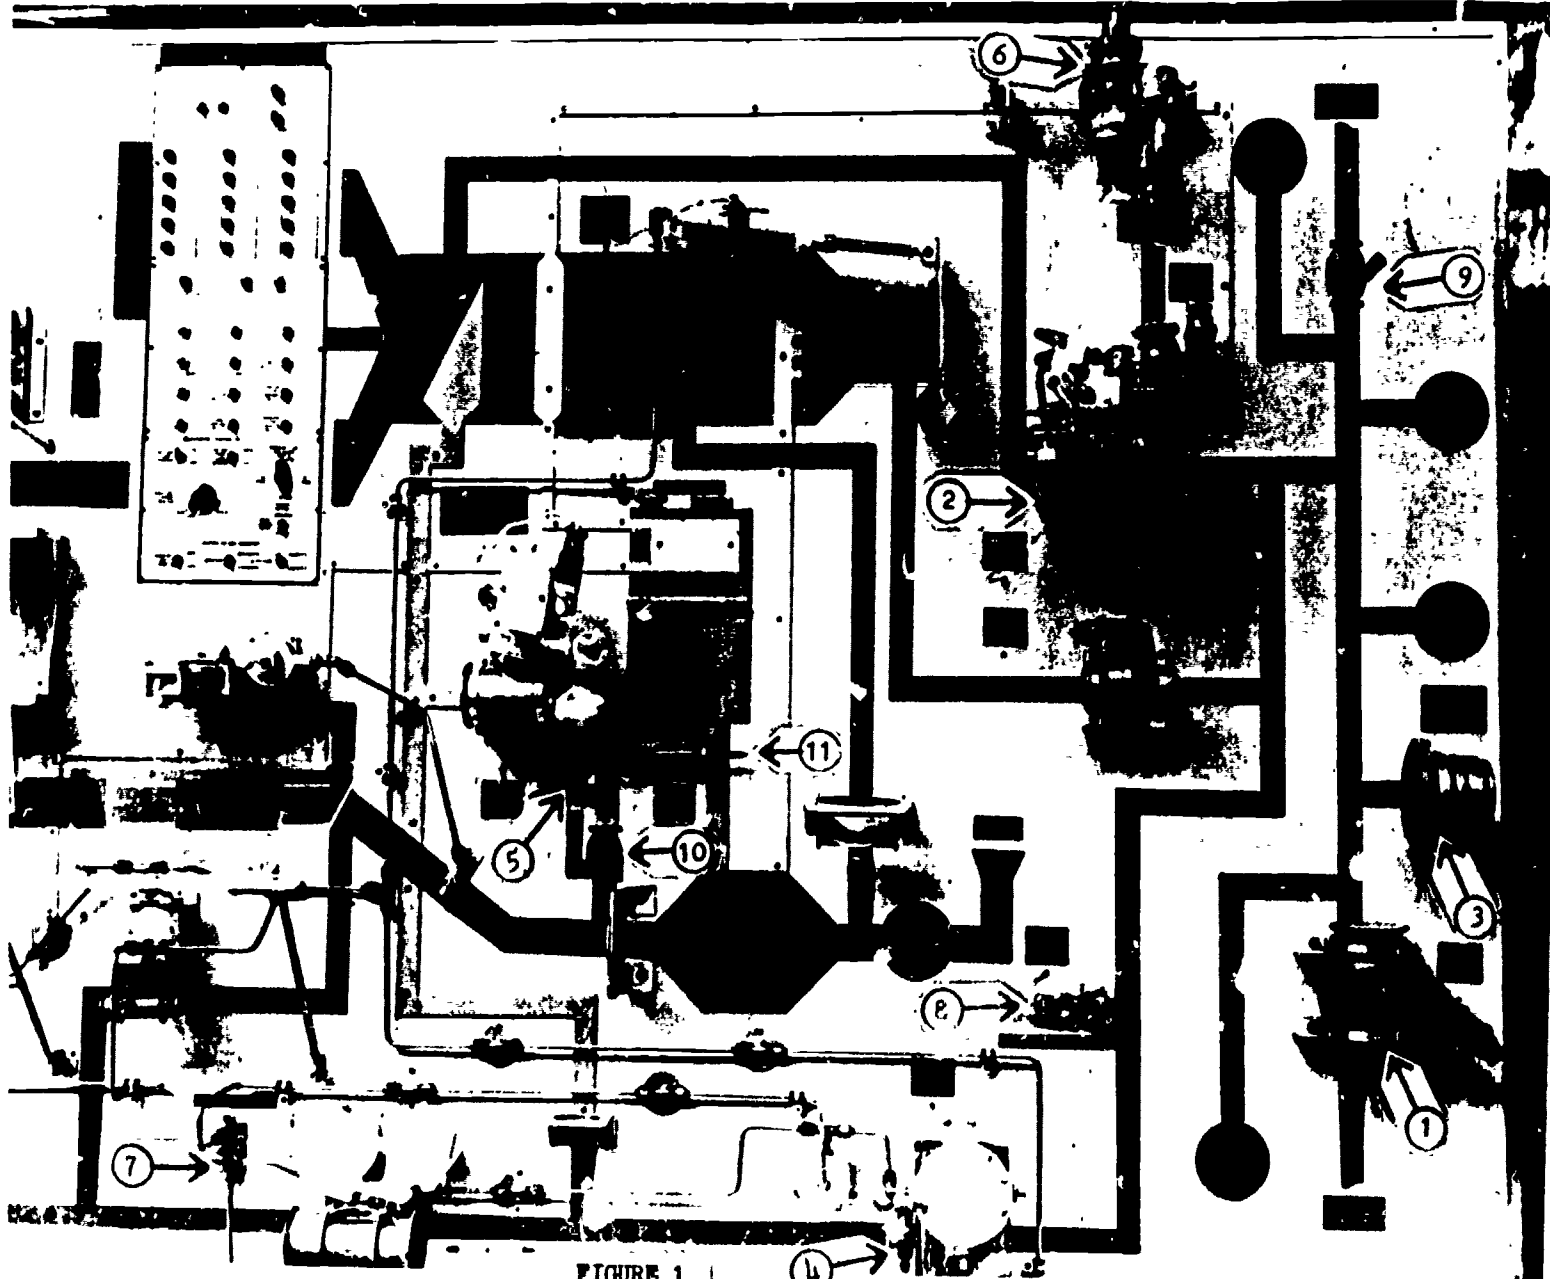

FIGURE 1
1. Using the trainer and figure 1, find each of the listed parts. Write the number that goes with the name of each part in the blank space. As you find the parts follow the flow of air from the engines and ground start connection. The flow of air is through the refrigeration unit and the refrigeration bypass duct.